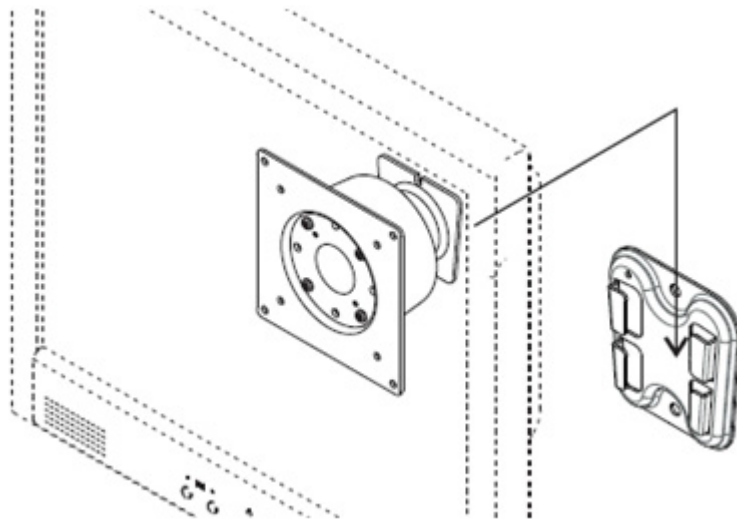

Figure 2.22
- Align the Panel PC into the mounting bracket on the wall. (Figure 2.22)